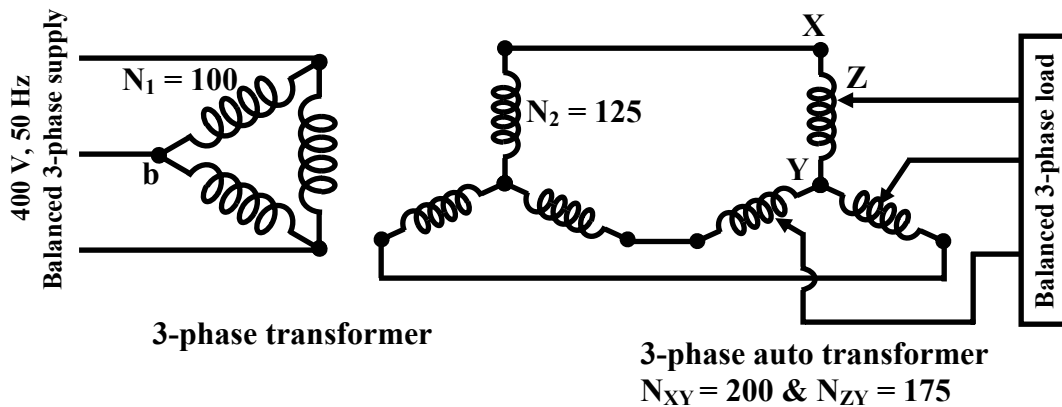

Figure 27.9:
- A delta-star connected 3-phase transformer is supplied with a balanced 3-phase, 400 V supply as shown in figure 27.9. A 3-phase auto transformer is fed from the output of the 3-phase transformer. Finally the at the secondary of the autotransformer a balanced 3-phase load is connected. The per phase primary and secondary turns of both the transformers are given in figure 27.9.